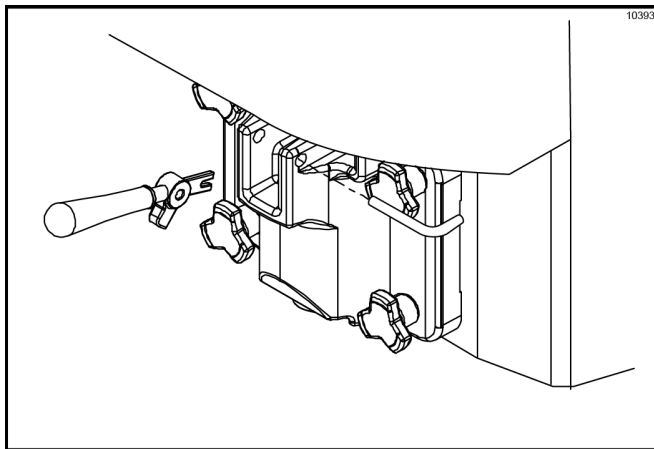

Figure-140
15. Install the draw handle. Slide the fork of the draw handle in the slot of the draw valve. Secure with pivot pin. (See Figure-140.)